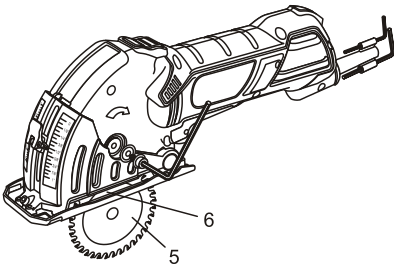

Fig. 2
2. Slide blade (5) through the slot in the bottom of the blade guard and onto the arbor so the hole in the blade (6) slides over the arbor (Fig. 2).
1. Install an appropriate cutting blade in the tool as outlined on Page 15 Fig. 2.